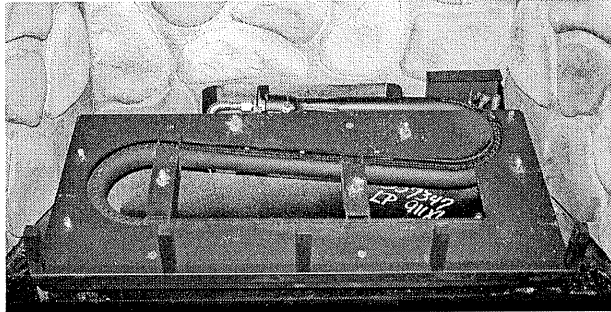

Figure G-2
- Place the burner / cover assembly onto the board, properly seating the burner tube over the orifice and aligning the mounting holes in the burner brackets to the corresponding mounting studs on the bottom of the millivolt board. Figures G-2 & G-3